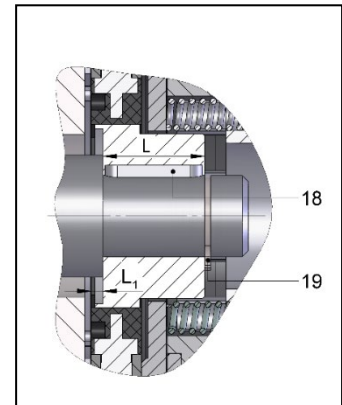

Fig. 7/1: Hub (13) position
Slip the hub (13) on a shaft (17) provided with a feather key (18) to DIN 6885, sheet 1, and secure it axially (with a shaft collar, circlip (19) or the like). Make sure that the hub (13) is set back by  $L_1$  (see Fig. 7/1 and Table 7/1) relative to the friction surface of the friction disc (7). If a friction plate (12) or flange 3) (12) (accessories) is used, mount the friction plate (12) or flange 3) (12) to the mounting surface (9) (e.g. motor end shield). Push the friction disc (7) onto the hub (13). Check that you feel only little resistance when sliding the friction disc (7) along the hub (13). Then fix the field coil of the spring-applied single-disc brake to the mounting surface (9) (e.g. motor end shield) by means of the mounting screws (14). If sealing rings (16) (accessories) are used, they must be slipped on the mounting screws (14).
The  $M_A$  tightening torque (see Table 7/1) specified for the mounting screws (14) must be strictly observed. Tighten the mounting screws (14) evenly in several steps. The axial position of the hub (13) (see Fig. 7/1 and Table 7/1) must be maintained to ensure reliable torque transmission by the hub (13).